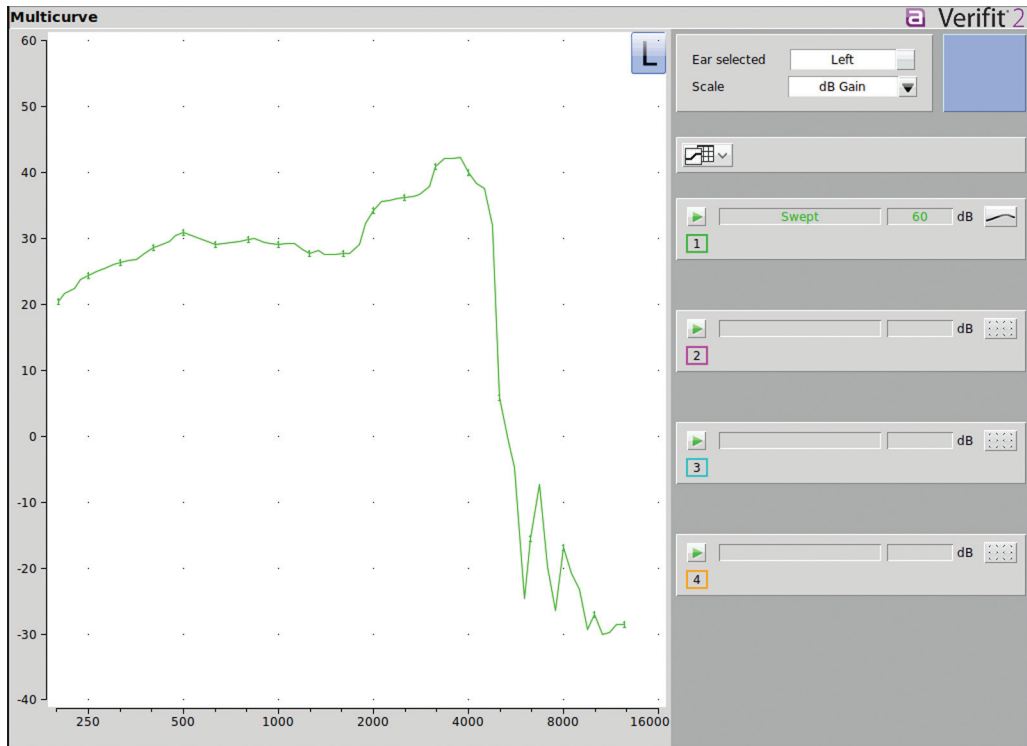

Figure 10 Frequency/Gain response for a 60-dB SPL input signal.
8. Click **the green arrow above 1** to start the test. When the test has started, you can choose the type of stimulus and level (choose a moderate level, e.g., 60 dB). Figure 10 is an example of the measurement you will get if you follow the steps above.
10. Table 2 provides the patient’s hearing thresholds as a function of frequency, the gain from the frequency/gain curve that was obtained with a patient’s current hearing aid (from Figure 10), and the recommended gain using the 1/3 and 1/2 gain rules. The last column asks whether the hearing aid gain is appropriate based on this hearing loss. To be “appropriate,” the measured gain (from the frequency/gain curve) would have to fall at or between the 1/3 and 1/2 gain rule values. In this case, the gain is appropriate at 500, 1,000, 2,000, and 4,000 Hz.